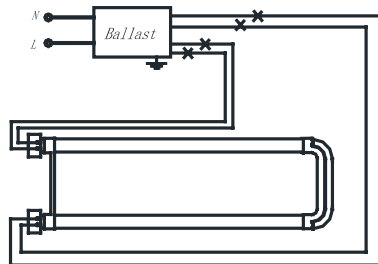

Fig. 2
STEP 5: In accordance with the below drawing, cut off all the wires connected to the ballast and starter(if provided), shown as below, Fig.2